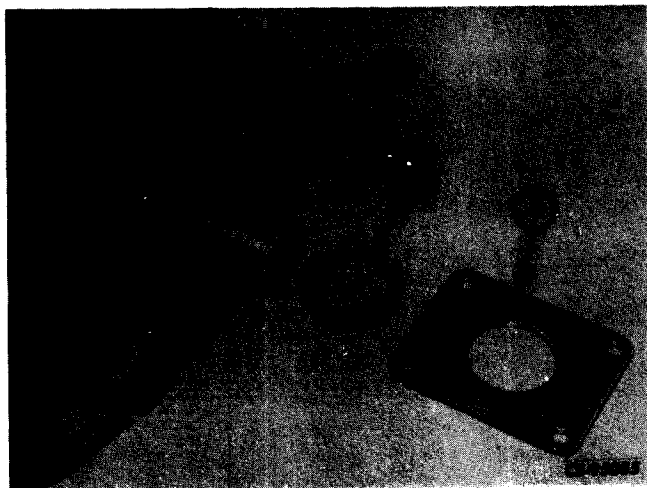

Figure 11-40
Remove cap screws securing retainer plate(s) (3, Fig. 11-40) to main valve (1). Remove plate(s) and wiper (2).
Lubricate opposite end of plunger and carefully work a new seal over plunger and press into valve bore. Slide wiper (2, Fig. 11-40) and plate(s) (3) over plunger. Secure to valve (1) with cap screws.